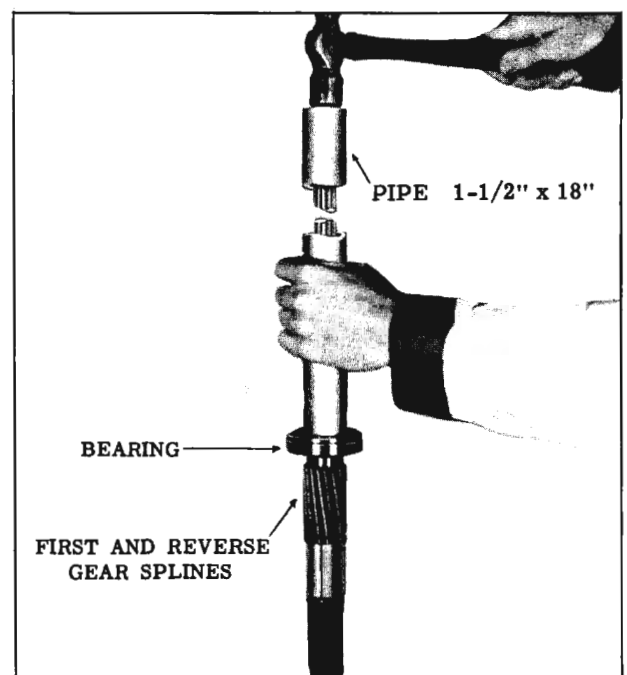

Fig. 11-25 Installing Rear Bearing
4. To assemble the parts, install the bearing on the main shaft with parts, with the shielded side toward the shoulder of the first and reverse splines on the main shaft and seat the bearing against the first and reverse gear splines on the main shaft. (Fig. 11-25)